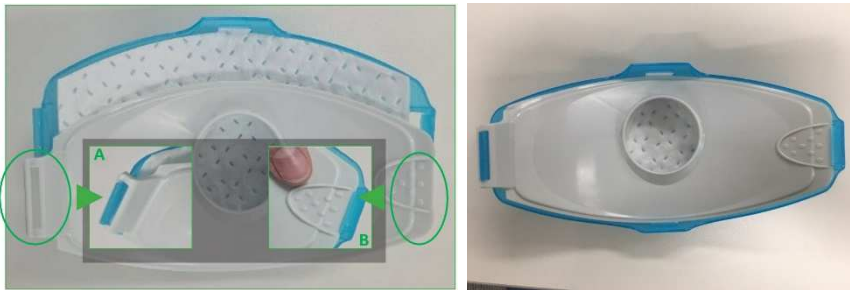

Figure 36 – Connecting Inner and Outer Case
Then, place the inner case over the filter. Align the end (A) to slot in and then close and clip the case shut (B). This is shown below in Figure 36 **Error! Reference source not found..**